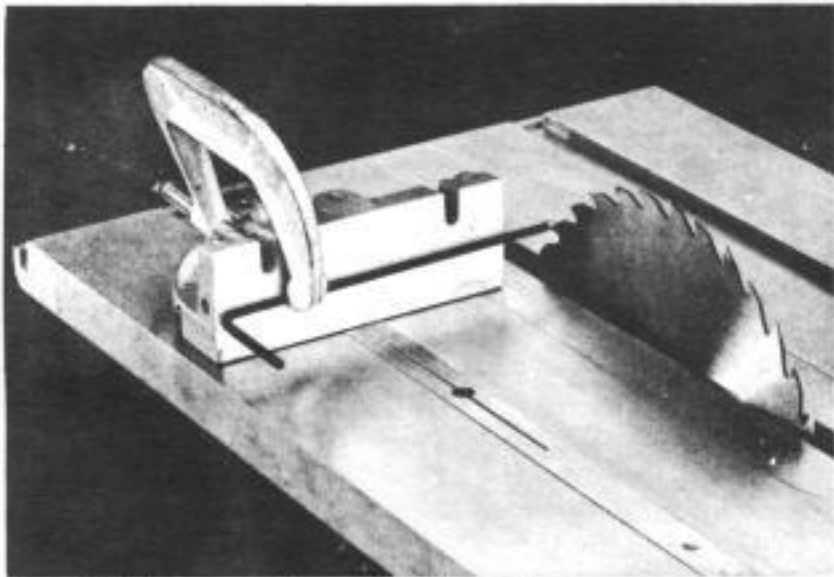

Fig. 7 Table slots must be parallel with saw blade
2.... TABLE SLOTS MUST BE PARALLEL TO SAW BLADE. Check by setting table as low as possible in normal sawing position. Place the miter gauge in either slot and clamp the Allen wrench to its face so that it extends just enough to touch one tooth of the blade set in the direction of the miter gauge (Fig. 7). Mark the tooth with a pencil. The miter gauge stop rod, if available, may be used in place of the Allen wrench. Rotate the saw blade backwards by hand until that same tooth is at the rear of the insert slot. Move the miter gauge ahead and check to see if the Allen wrench just barely touches that same tooth. If it does not, adjustment is required.